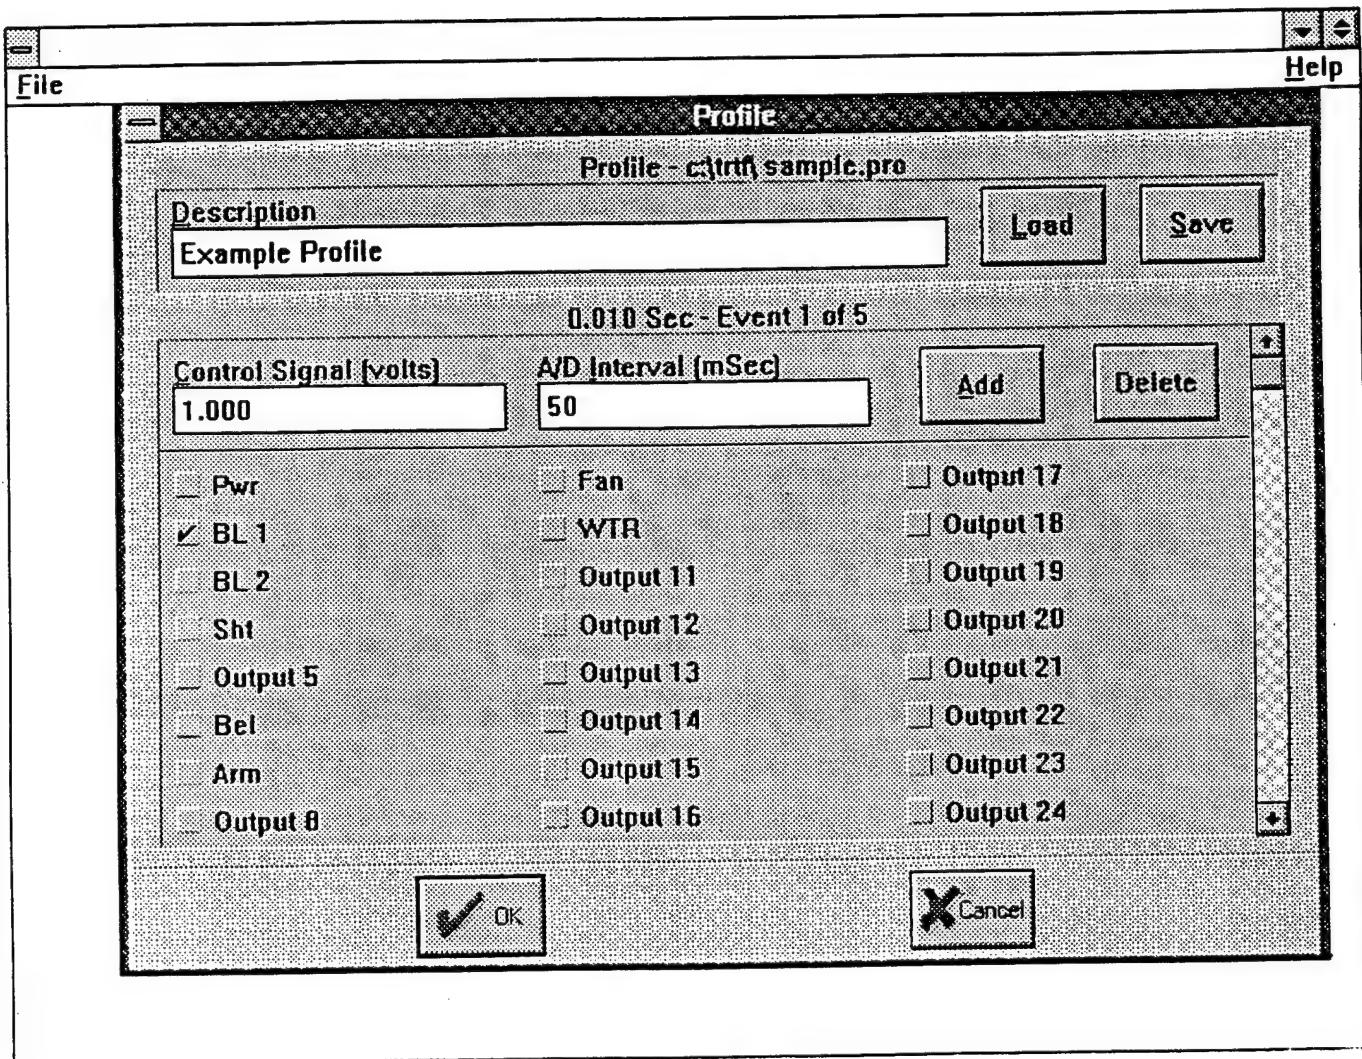

Figure 3-4. Profile.
3. Fill in Customer and Specimen Title. Position cursor on OK and execute single click. Figure 3-4 will appear.
NOTE: Operating test profiles are generally accomplished using a sequence of timed events, e.g. Power to QLB, Windtunnel Blowers, Shutter Actuation, Bell Warning Alarm, and QLB Cooling Fan operation. Test parameters for each event sequence on each PROFILE event screen (Figure 3-4). Each event is displayed by positioning cursor on small arrows on right side of screen to advance or to retreat event displays and executing single click. A typical test profile of events is shown in the Appendix.